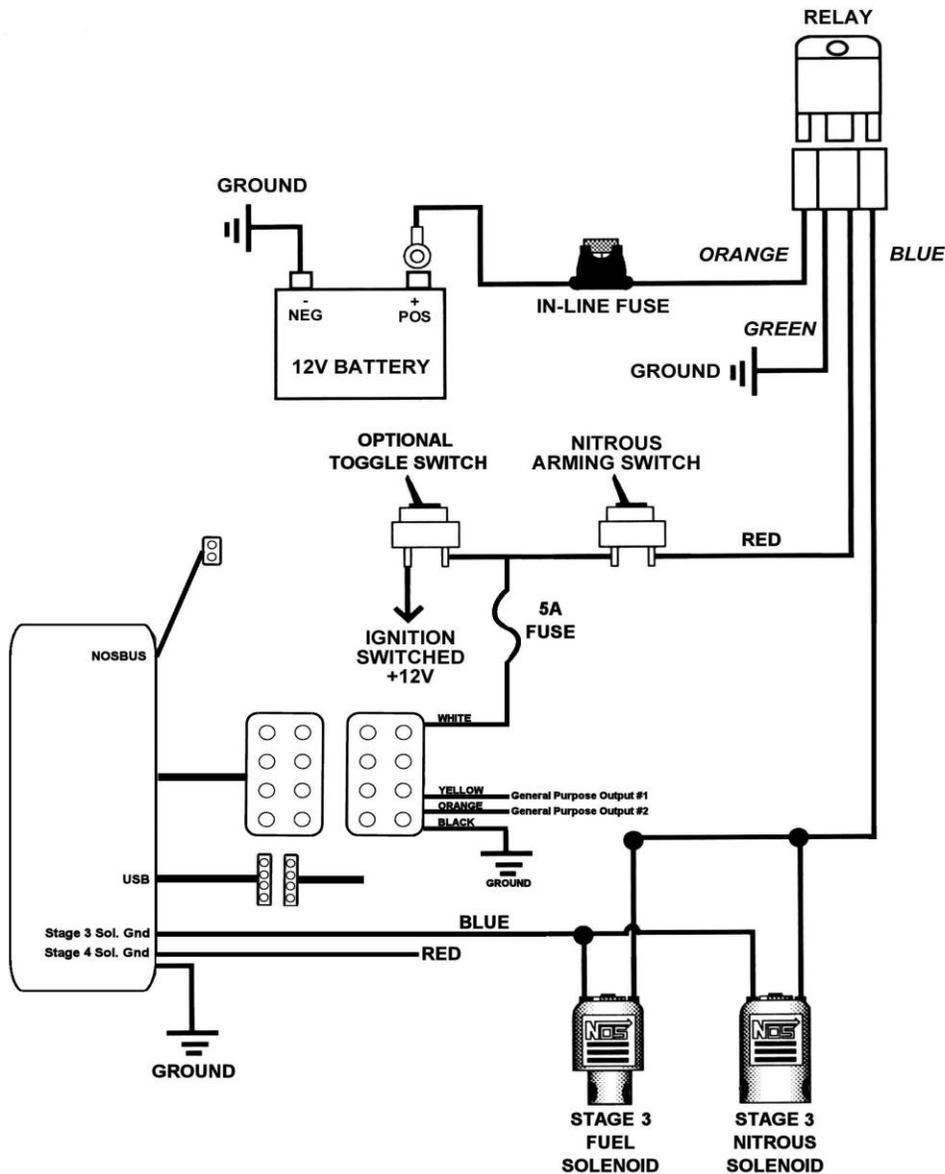

Figure 2 SLAVE WIRING
2. The slave unit wiring and colors are the same as the master controller. The slave unit does not have the USB cable connector, manifold vacuum/pressure input, or fuel pressure sensor input. Wire it per section 2.1 above. See Figure 2 below.